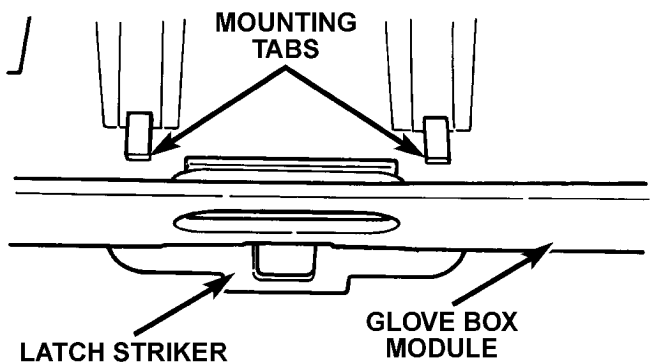

Fig. 14 Glove Box Latch Striker Remove/Install
(1) Remove the glove box module from the instrument panel. See Glove Box Module in this group for the procedures.
(2) From the top of the glove box module, straighten the two mounting tabs that secure the glove box latch striker to the glove box module (Fig. 14).